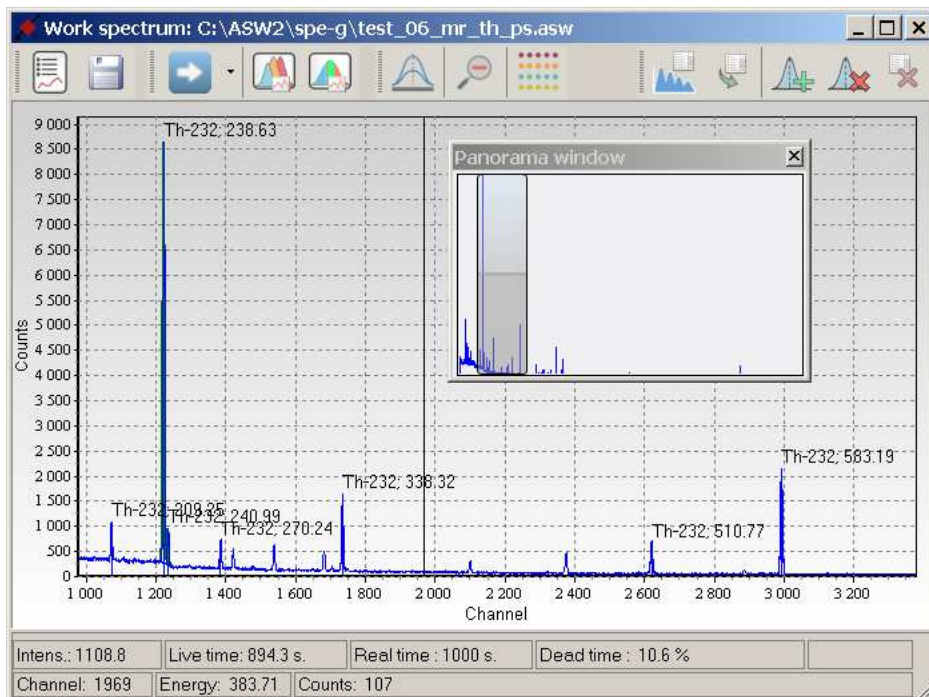

Figure 24.1. The Panorama window of a spectrum.
**Panorama window** - when opened, this window (see Fig. 24.1) displays that part of a spectrum which is marked by scaling in the main spectrum window. The semi-transparent rectangle can be moved by user which automatically changes the scaling in the main spectrum window. The opposite is also true: changing the scale and zooming the spectrum's regions is automatically displayed in the **Panorama window**.